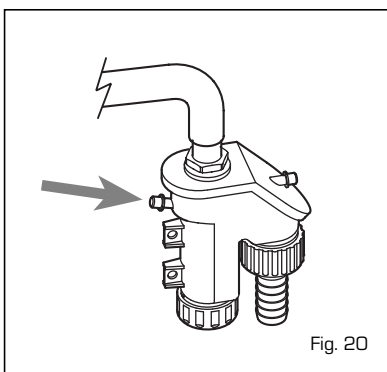

Fig. 20
**If necessary, the drip plate can be filled using the tap provided (fig. 20).**